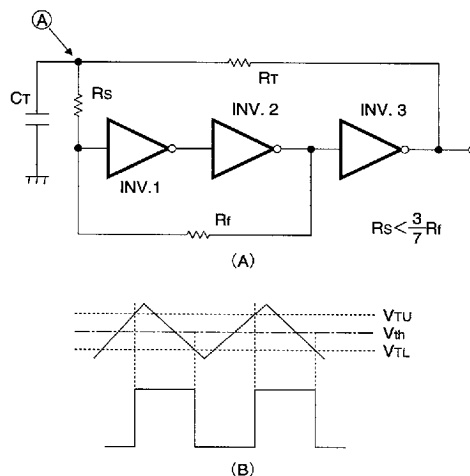

Fig.2
The Schmitt trigger circuit is composed of the INV. 1, INV. 2, and the resistors R_f and R_s shown in Figure 2. As shown in Figure 2 (B), the high level circuit threshold voltage V_{TU} and the low level circuit threshold voltage V_{TL} cause inversion and result in the rise of the output voltage V of INV. 2. As a result, the output voltage V_{OUT} is raised at point A and operation is stabilized through the feedback resistance R_f .